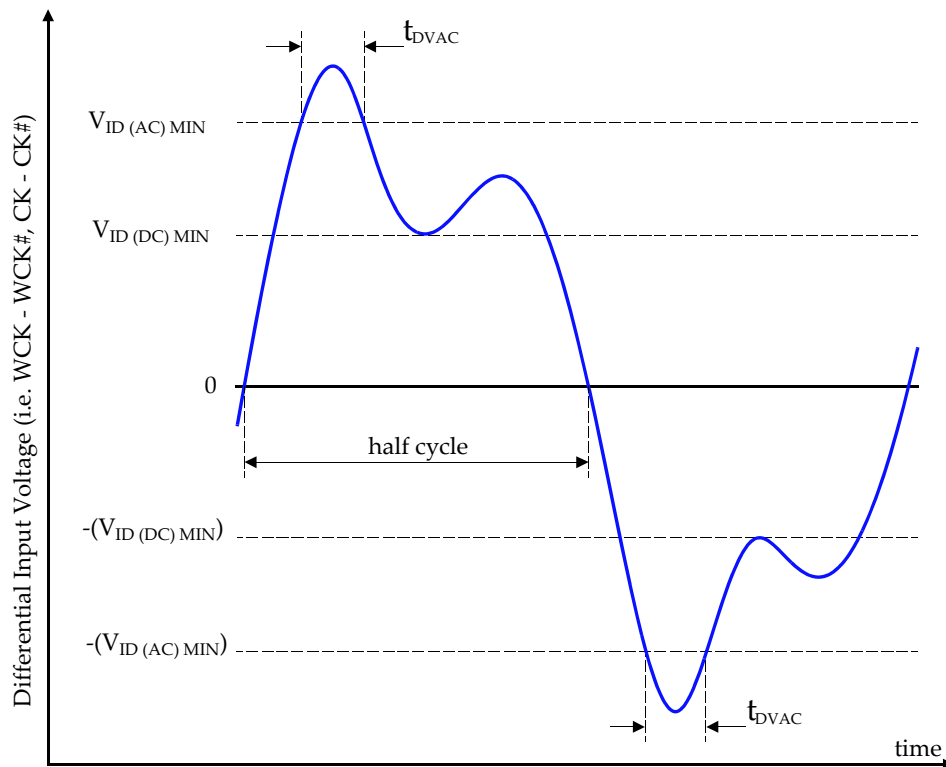

Figure 83 — Definition of differential ac-swing and "time above ac-level" t_{DVAC}
NOTE 11 Figure 83 illustrates the exact relationship between (CK-CK#) or (WCK-WCK#) and VID(AC), VID(DC) and t_{DVAC}